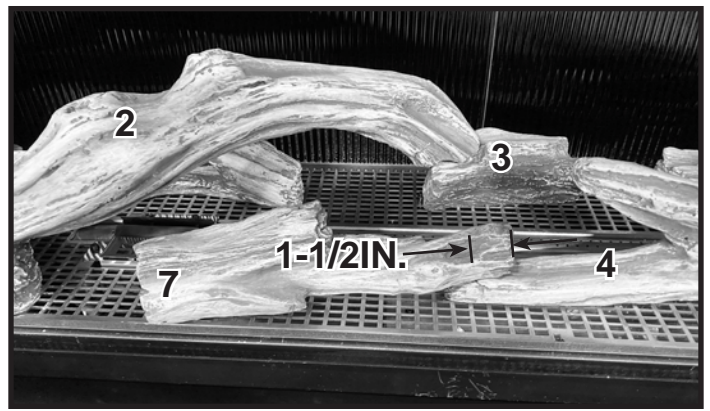

Figure 8 Install Log #7
**Log #7:** Set the right side of Log #7 on Log #4 as shown in Figure 8. There should be a 1-1/2 inch overlap as noted. Pivot the left side of the log forward until it contacts the media tray ledge.